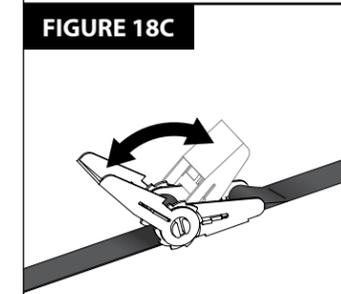

FIGURE 18C
b. Wrap entire ratchet assembly around tree and hook other "S" hook through opposite upper tree blade hole. Pull tail of long strap until most of the slack is taken out. Be sure entire strap is even and at the same level all around tree. "Ratchet" tight to tree, this will securely attach ladder to tree and prevent movement. **SEE FIGURE 18C.**